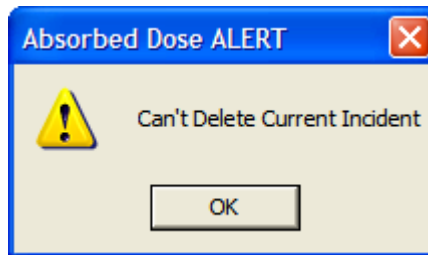

Figure 7-11
3. If the selected incident is the currently active incident, it can not be deleted without first setting another incident as the current incident. Figure 7-11 will appear.